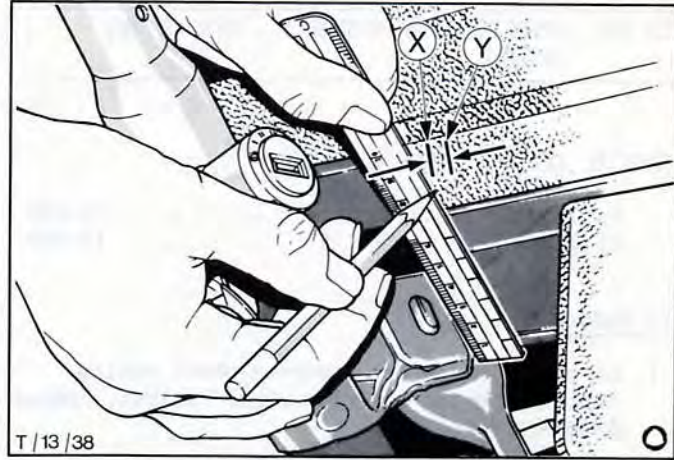
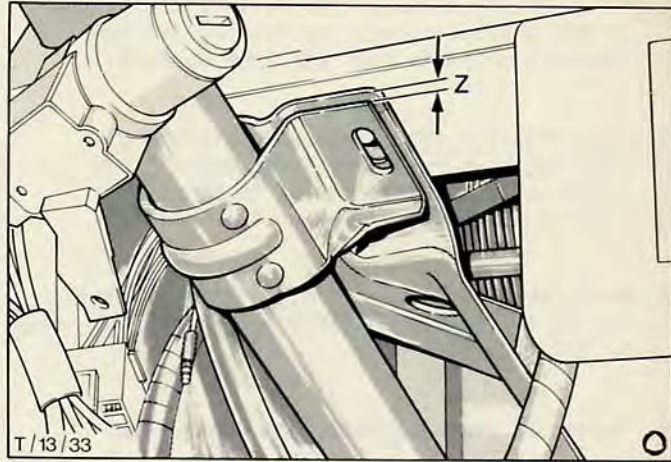

Fig.10. Measuring horizontal displacement 'X' and 'Y'.
Fig.12. Adjust steering column until a gap of 5mm (Z) exists between bracket and pedal box bracket.
17. Mark horizontal position of the steering shaft tube bracket relative to the belt rail, see 'X', Fig.10.
18. Remove the two nuts/washers fitted in operation fifteen (15) and push the two studs up through the belt rail so that the steering column is free to adopt its natural position.
19. Measure the distance between the pedal box bracket and the steering shaft tube dimension 'Z'. in Fig.12.
20. Mark the new horizontal position of the steering shaft tube relative to the belt rail, 'Y' in Fig.10. Note the difference between positions 'X' and 'Y'.